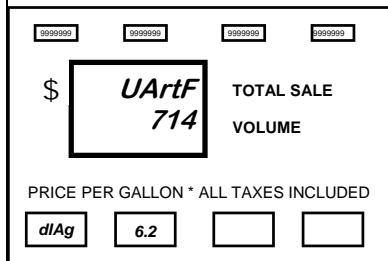

Figure D-13
6.1 - Comm. The display shown in Figure D-13 appears. The Price display shows the dispenser is in Diagnostics Level 6.2.